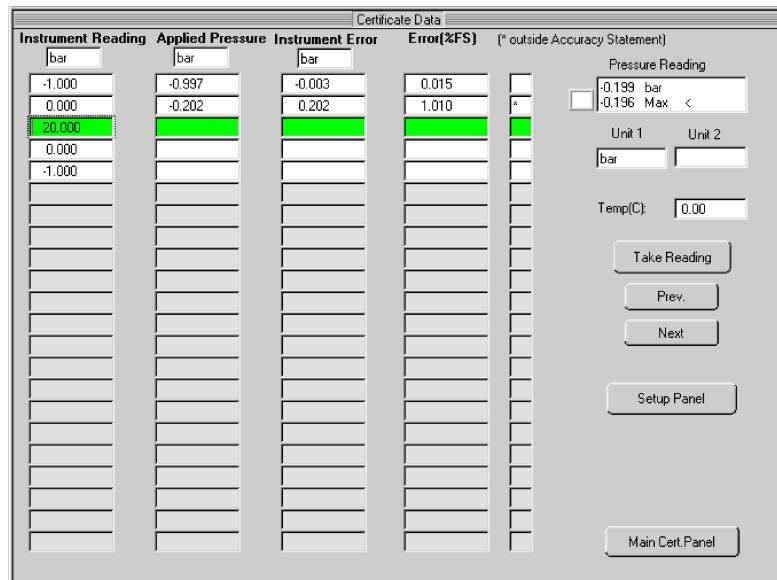

Figure 5-15: Example display - Certificate Data (Normal certificate type)
The software uses this data to set the *Range* on Figure 5-10 and the calibration points (*Instrument Reading* values) on Figure 5-15. It also uses the range data to calculate the calibration errors.
OK: To accept the data (or accept changes to the data) and continue to the next display (Figure 5-15).
3. To accept the settings, click on *OK* > See Figure 5-15
Description (Figure 5-15) Figure 5-15 shows the pressure and temperature readings on the instrument (*Live Data*).